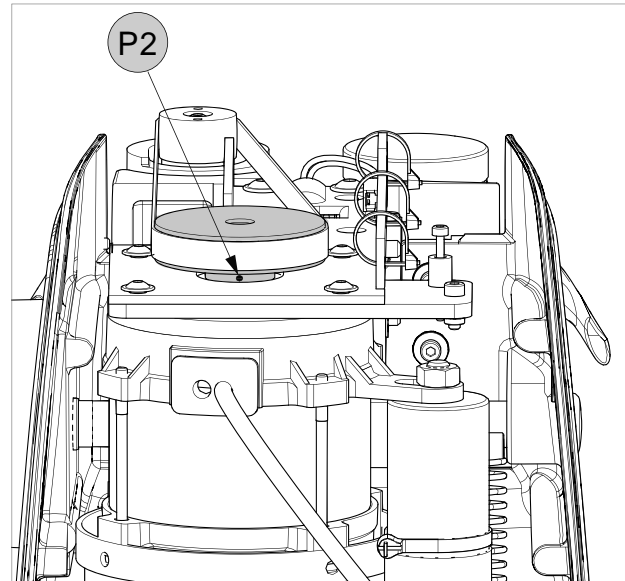

Fig. 53
- 6) Loosen the grub screw (P2) securing the motor pulley and pull upwards to remove (Fig. 53).